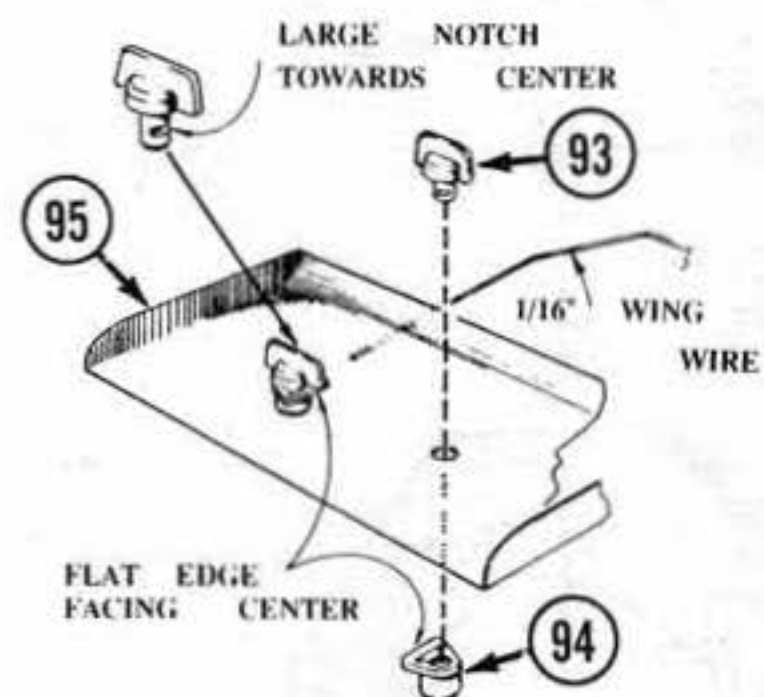

FIG. 46
3. Insert the male top wing button (93) through the top of the wing (95) and snap into the female bottom wing button (94) so that the flat, wire holding edges, are pointing inward toward each other. The top wing button (93) is turned so that the large notch is also pointing inward as shown in Fig. 46.
4. Insert the wing wire from the back and through the wing buttons until the wing is in the desired position. Fig. 46